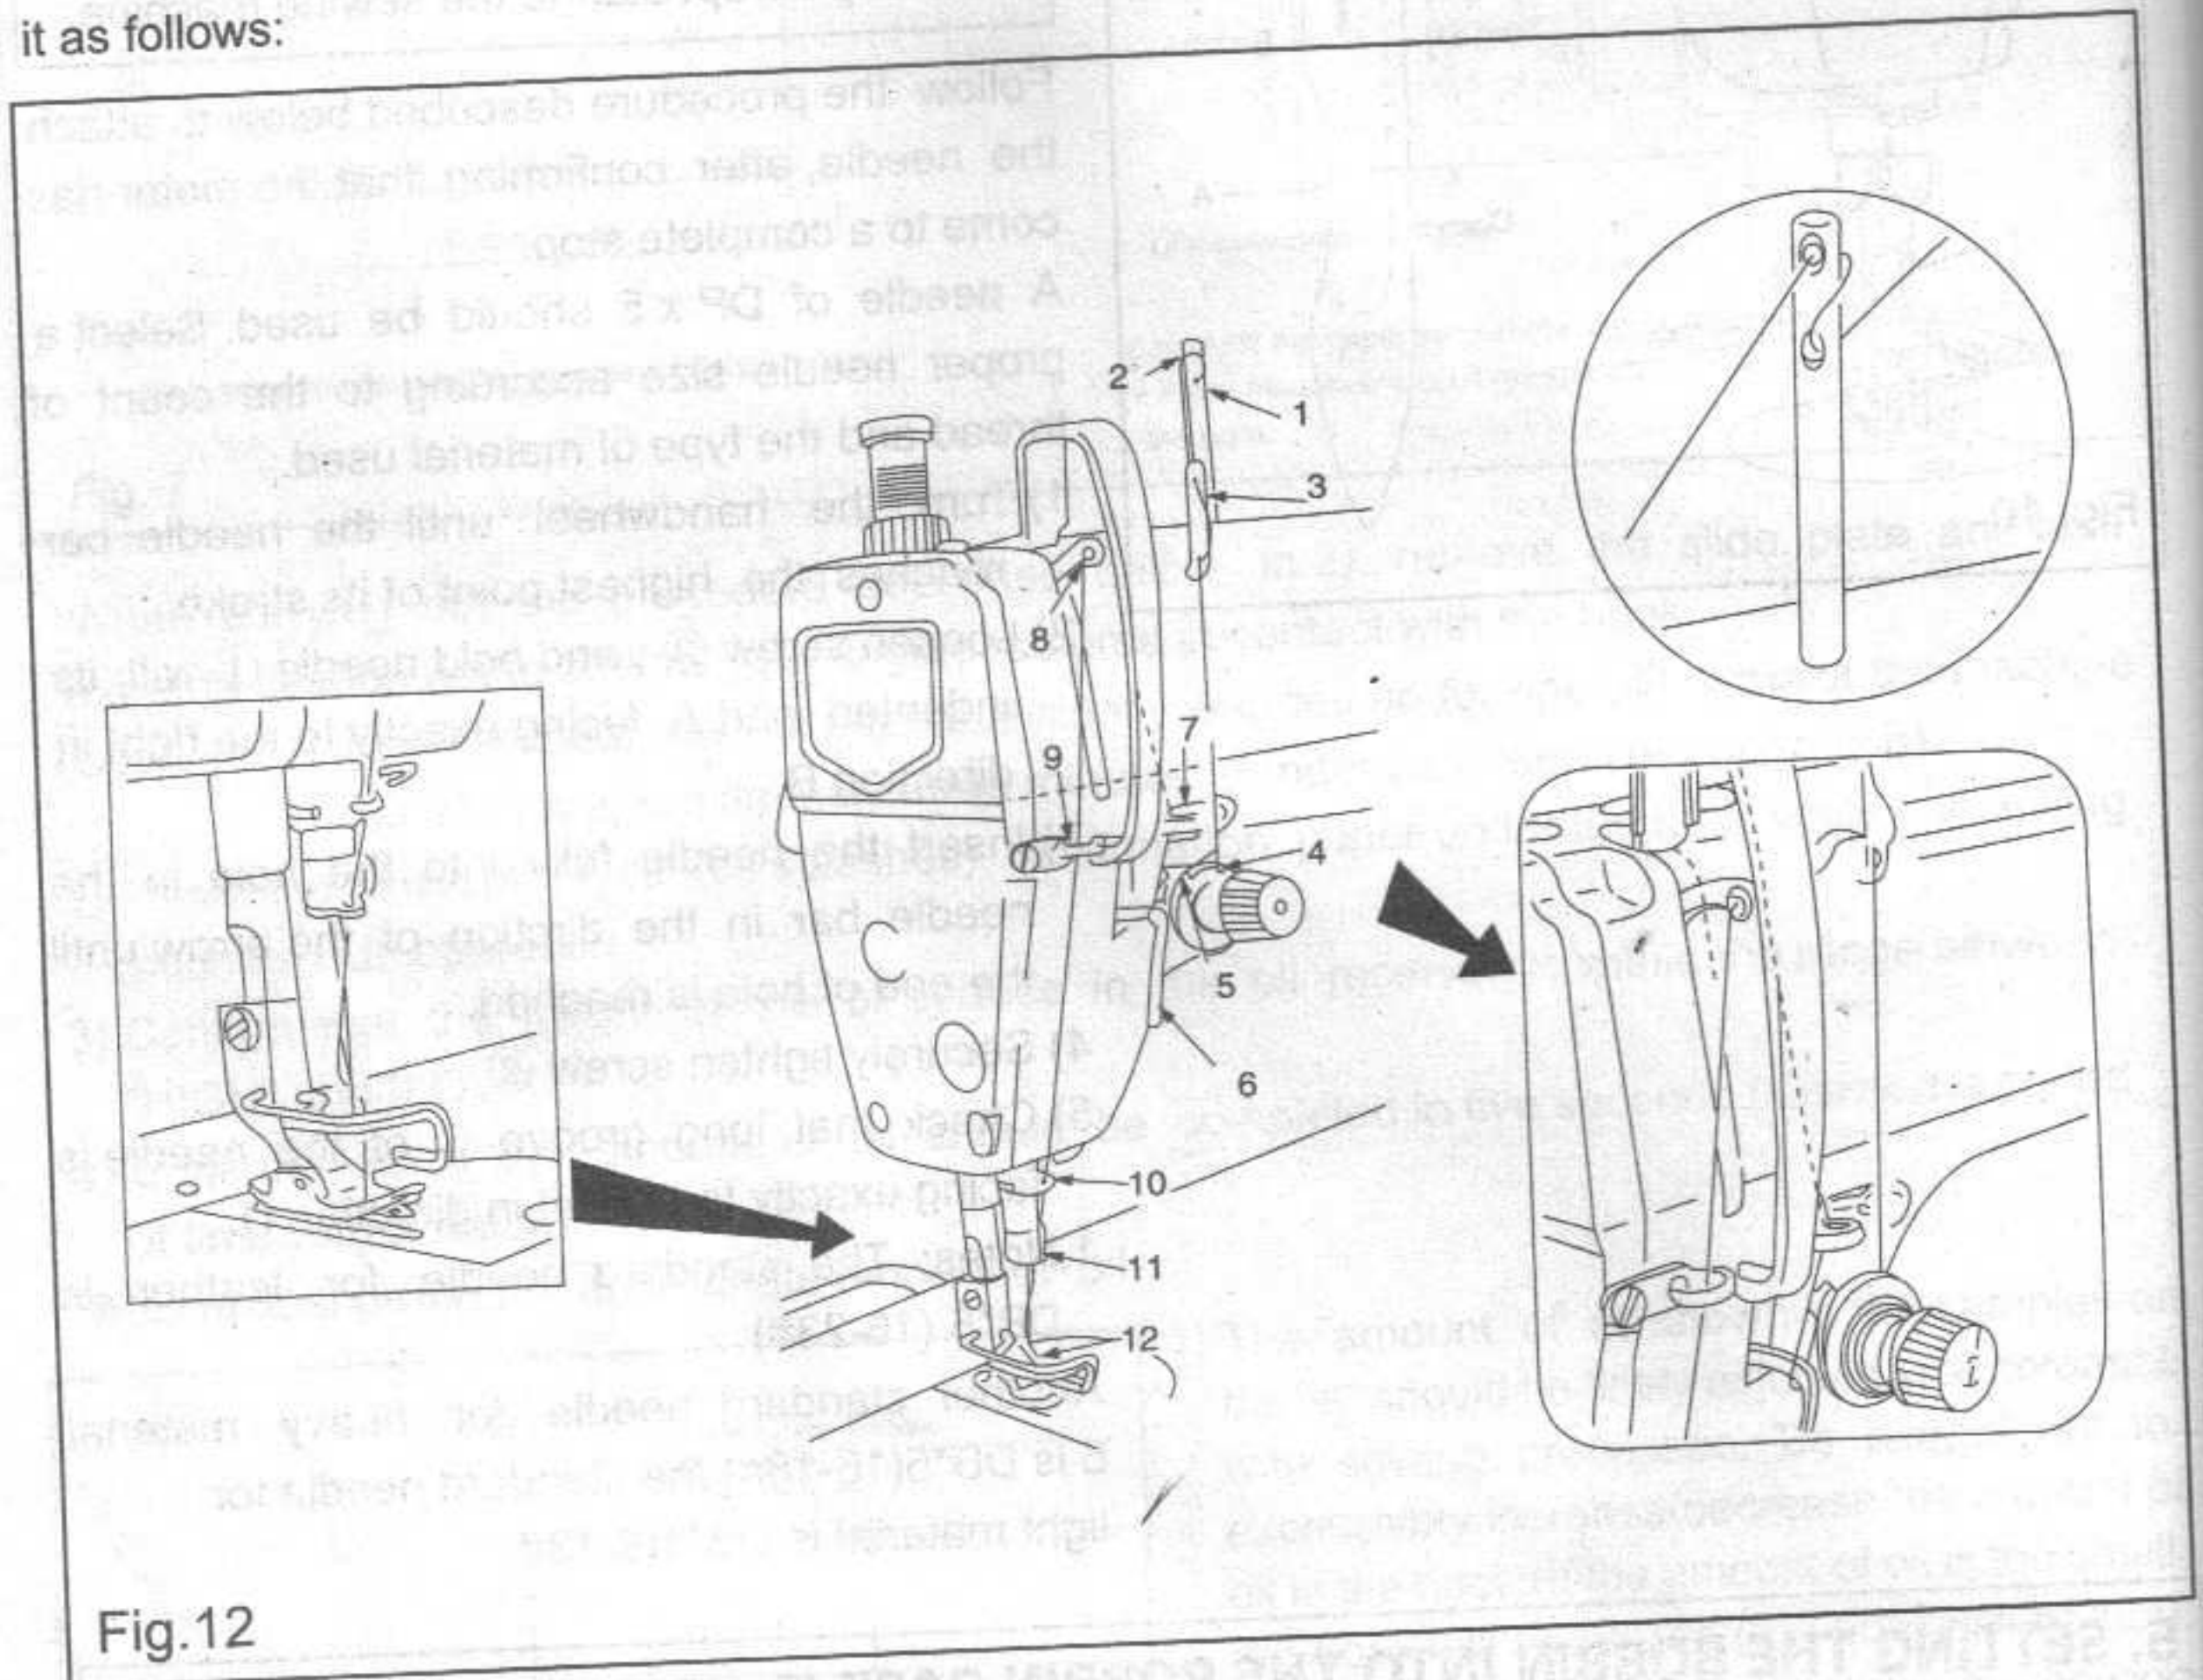

Fig.12
6. THREADING THE MACHINE HEAD(Fig.12)